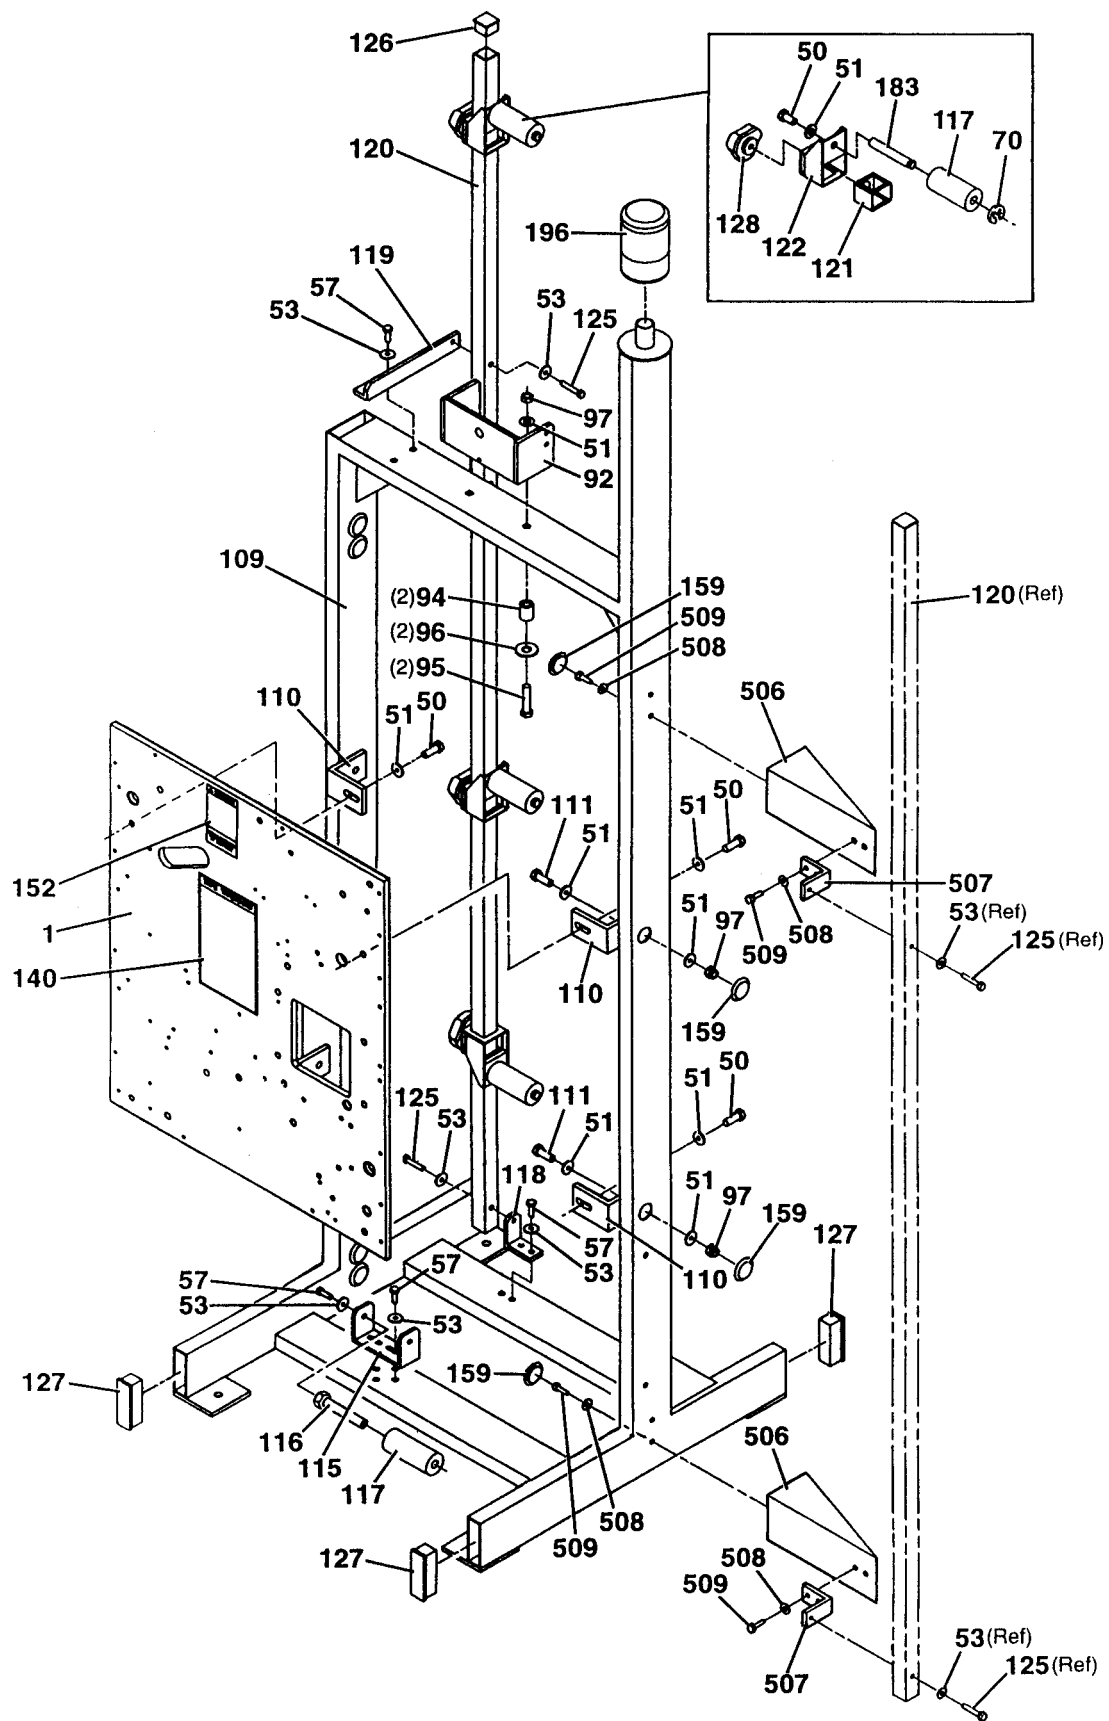

Figure 8-2 – Parts Illustration
2. Refer to Figures 8-2 through 8-7 to find the individual parts required and the parts reference number.